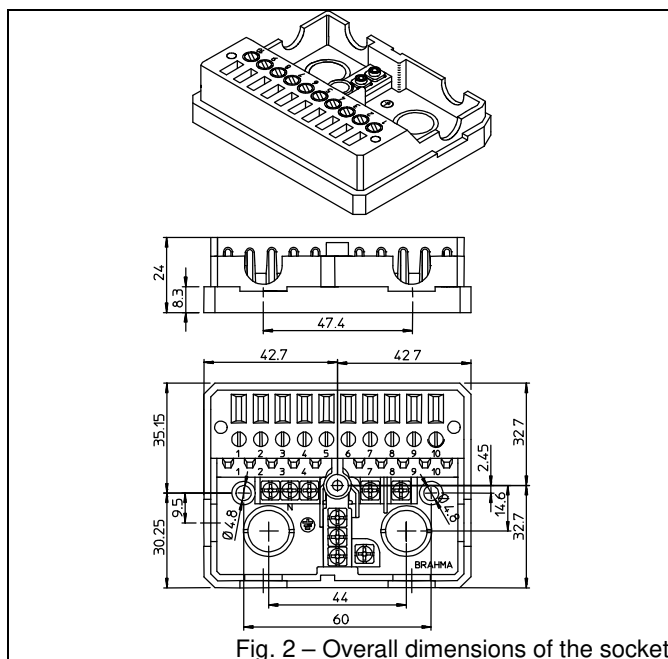
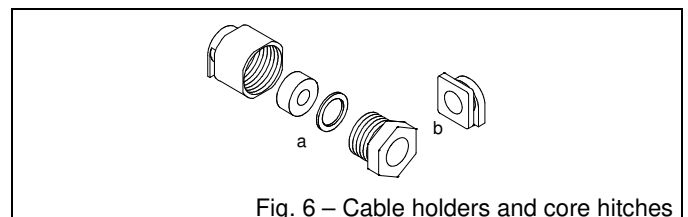

Fig. 2 – Overall dimensions of the socket
Fig. 6 – Cable holders and core hitches
For the connection of the external components the control can be fitted either with socket type N code 18210095 (see Fig. 2), provided with a screw terminal board which allows a simple and safety connection. To fix the sockets it is advisable to use screws type M4. To fix the control to the socket use the pin supplied with the control box.
Cable holders and core hitches can be fitted on the sides of the enclosure and the connecting sockets. These accessories can be supplied upon request (see Fig.6).
To order accessories (fig.6), see to the following codes:
- core hitches code 18210200 (fig. 6 a);
- core hitches code 80536550 (fig. 6 b).
- In order to maintain the IP40 protection degree the device must be connected to the N socket (fig. 2) with core hitches (fig. 6).